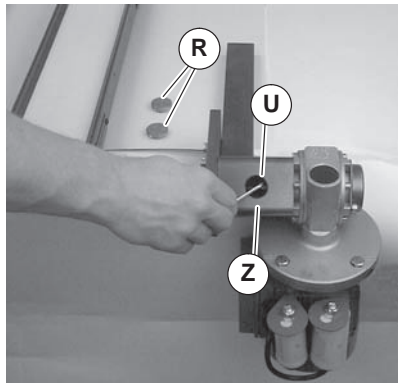

Figure 24
1. Remove inspection plugs (Figure 24, item R). Jog motor and rotate coupling to align set screws (U) with access hole (Z). Loosen set screw (U). Repeat for second set screw.